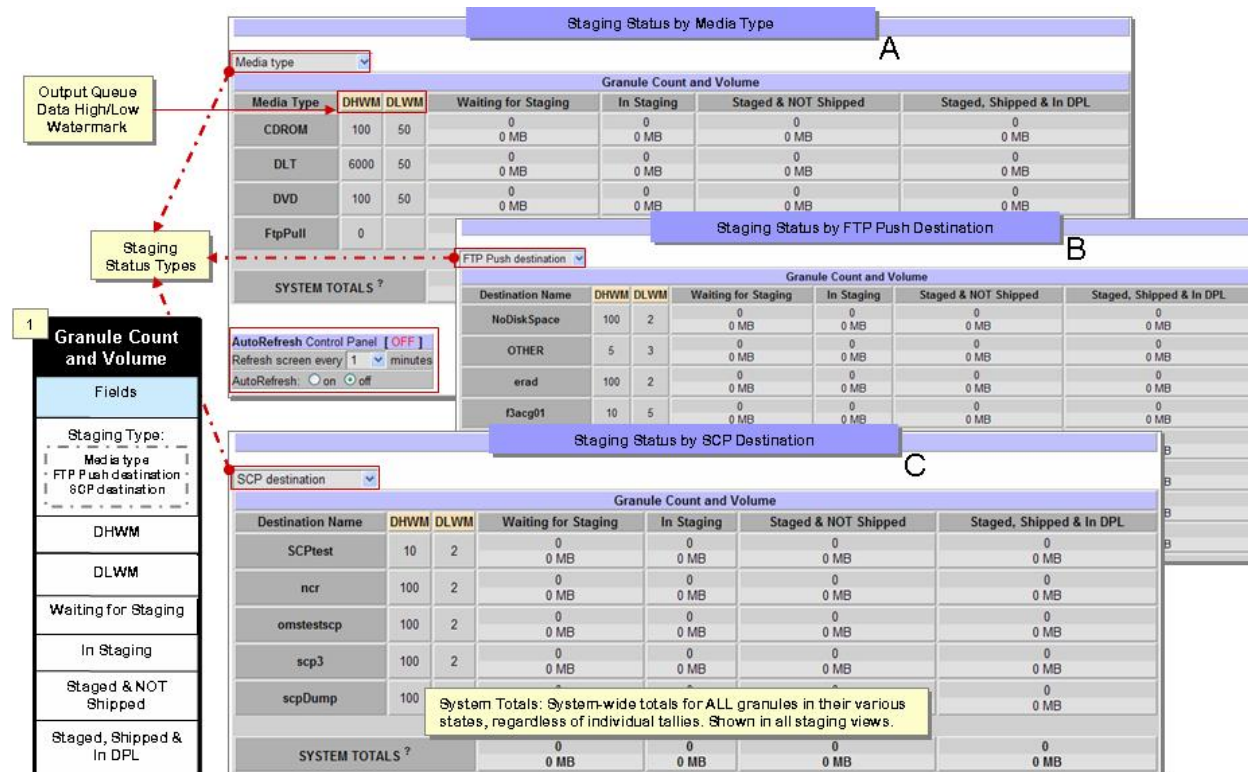

Figure 15.9-3. Staging Status Pages and Table (Fields)
The **Staging Status** pages (three types), shown in Figure 15.9-3, allows the Operator (full or limited capability) to monitor the number of granules and data volume currently in staging states.
Staging Status pages (Figures 15.9-3, Frames A, B, C) displays status in ALL or three ways:
- 1 - **Media Type** (Figures 15.9-3, Frames A).
- 2 - **FTP Push Destination** (Figures 15.9-3, Frames B).
- 3 - **SCP Destination** (Figures 15.9-3, Frames C).
The granules staging information (Figure 15.9-3 Staging Status Pages and Table (Fields) is arranged in four categories:
- 2 Click **one of three Staging Status** submenu options (Media Type, FTP Push Destination or SCP Destination) to display its page (Figure 15.9-3: Frame A-Media Type; Frame B-FTP Push Destination; Frame C-SCP Destination).
- 4 Observe displayed information (Figure 15.9-3) of the Granule Count and Volume section on the **Staging Status** page as follows: